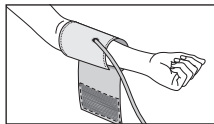

Fig.7
1. Apply the cuff to your left upper arm so that the air tube is directed to your palm (Fig. 7). If the measurement on your left arm is difficult, you may use your right arm. In this case remember that the readings may differ by 5-10 mmHg and even more.